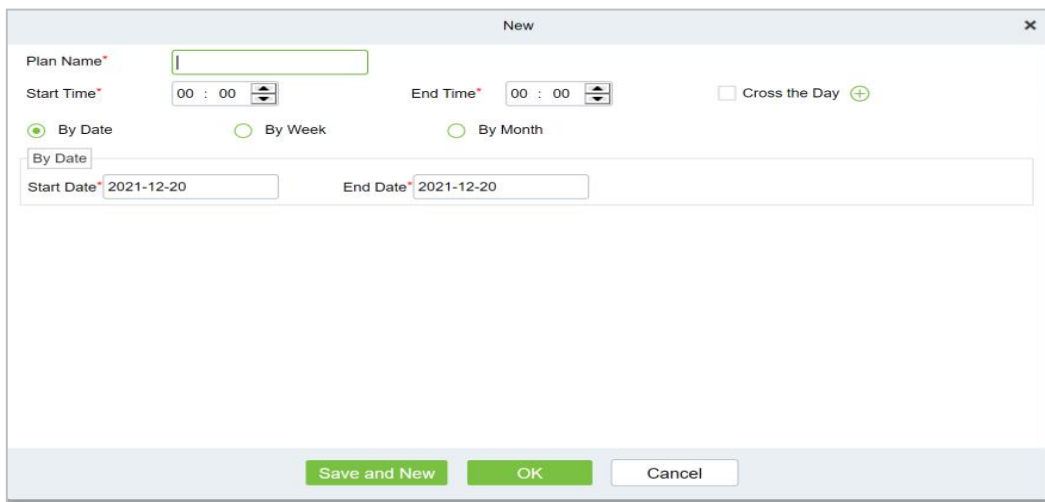

Figure 11-6 Patrol Plan
Step 2: In the **New** window that pops up, configure the patrol plan information, as shown in Figure 11-6, and describe the key parameters as shown in Table 11-1.